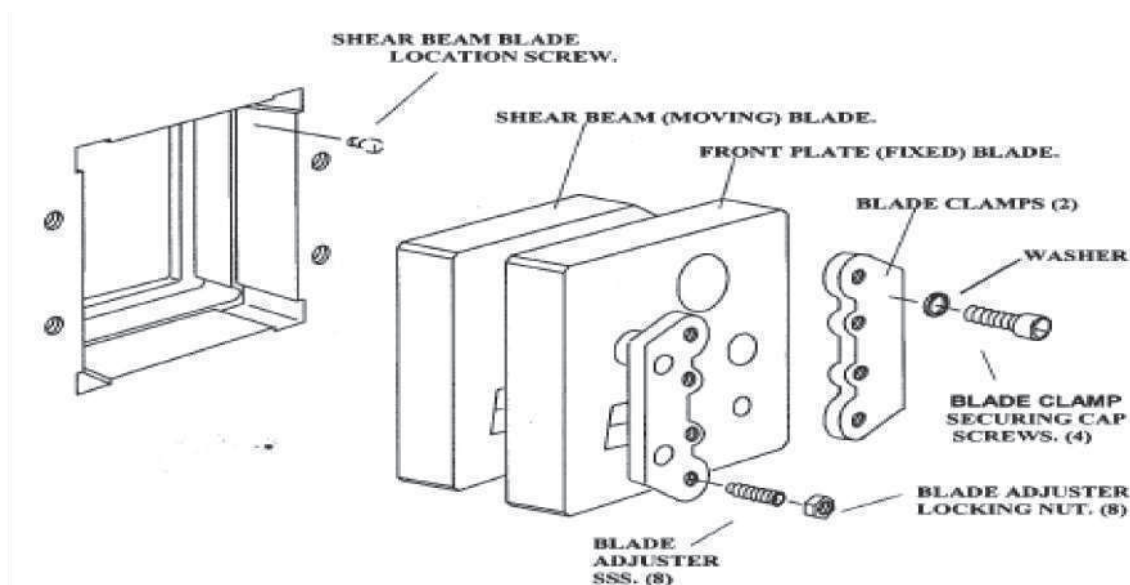

FIGURE 21
**REMOVAL: (REFER TO FIGURE 21.)**